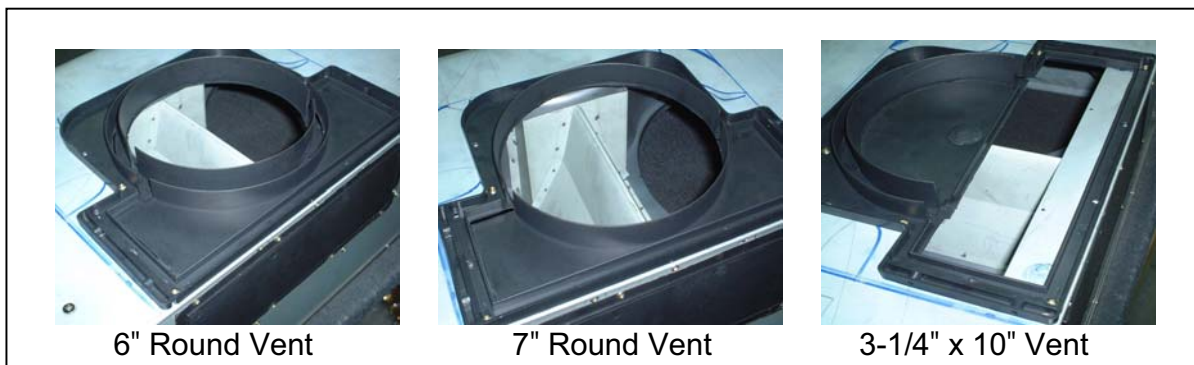

Figure 3
- Cut the multi duct exhaust according to the size of the venting pipe. Refer to Figure 3.